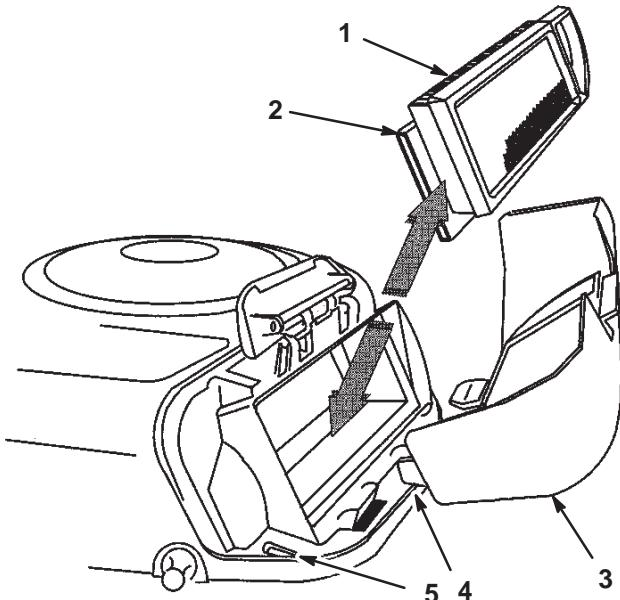

Figure 25
4. Carefully slide the paper element and foam element from the blower housing (Fig. 25).
2. Align the tabs on the air cleaner cover with the slots of the blower housing (Fig. 25). Hook the handle onto the cover and press down on the handle to lock the cover in place.